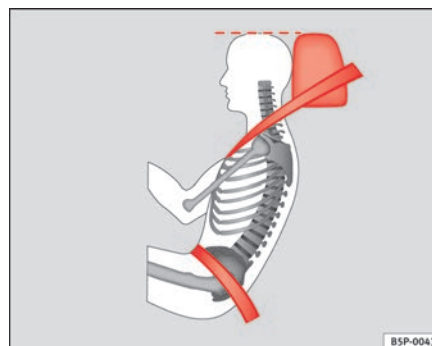

Fig. 13 Correct belt web and head restraint positions, viewed from side
- The lap part of the seat belt must lie across the pelvis, never across the stomach. The seat belt must lie flat and snugly over the pelvis ⇒ **page 22, fig. 13.** Pull the belt tight if necessary to take up any slack.